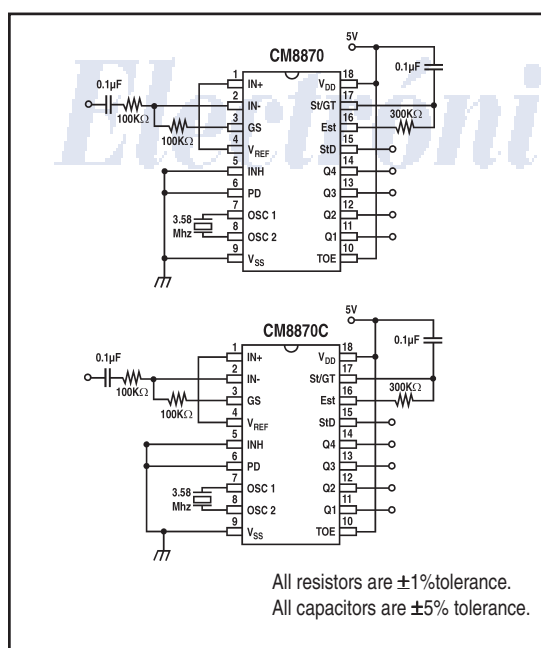
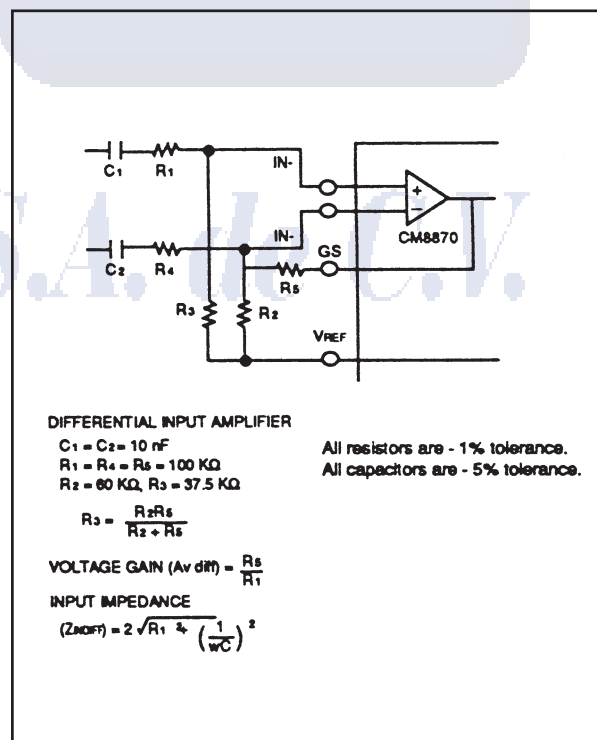

Figure 1.
Figure 6. Differential Input Configuration
- Referenced to Figure 1. Input DTMF tone level at -28 dBm.
The value of t_{DP} is a parameter of the device and t_{REC} is the minimum signal duration to be recognized by the receiver. A value for C of 0.1 uF is recommended for most applications, leaving R to be selected by the designer. For example, a suitable value of R for a t_{REC} of 40 milliseconds would be 300K. A typical circuit using this steering configuration is shown in Figure 1. The timing requirements for most telecommunication applications are satisfied with this circuit. Different steering arrangements may be used to select independently the guardtimes for tone-present (t_{GTP}) and tone absent (t_{GTA}). This may be necessary to meet system specifications which place both accept and reject limits on both tone duration and interdigit pause.
In a single-ended configuration, the input pins are connected as shown in Figure 1, with the op-amp connected for unity gain and V_{REF} biasing the input at $\frac{1}{2} V_{DD}$. Figure 6 shows the differential configuration, which permits the adjustment of gain with the feedback resistor R5.